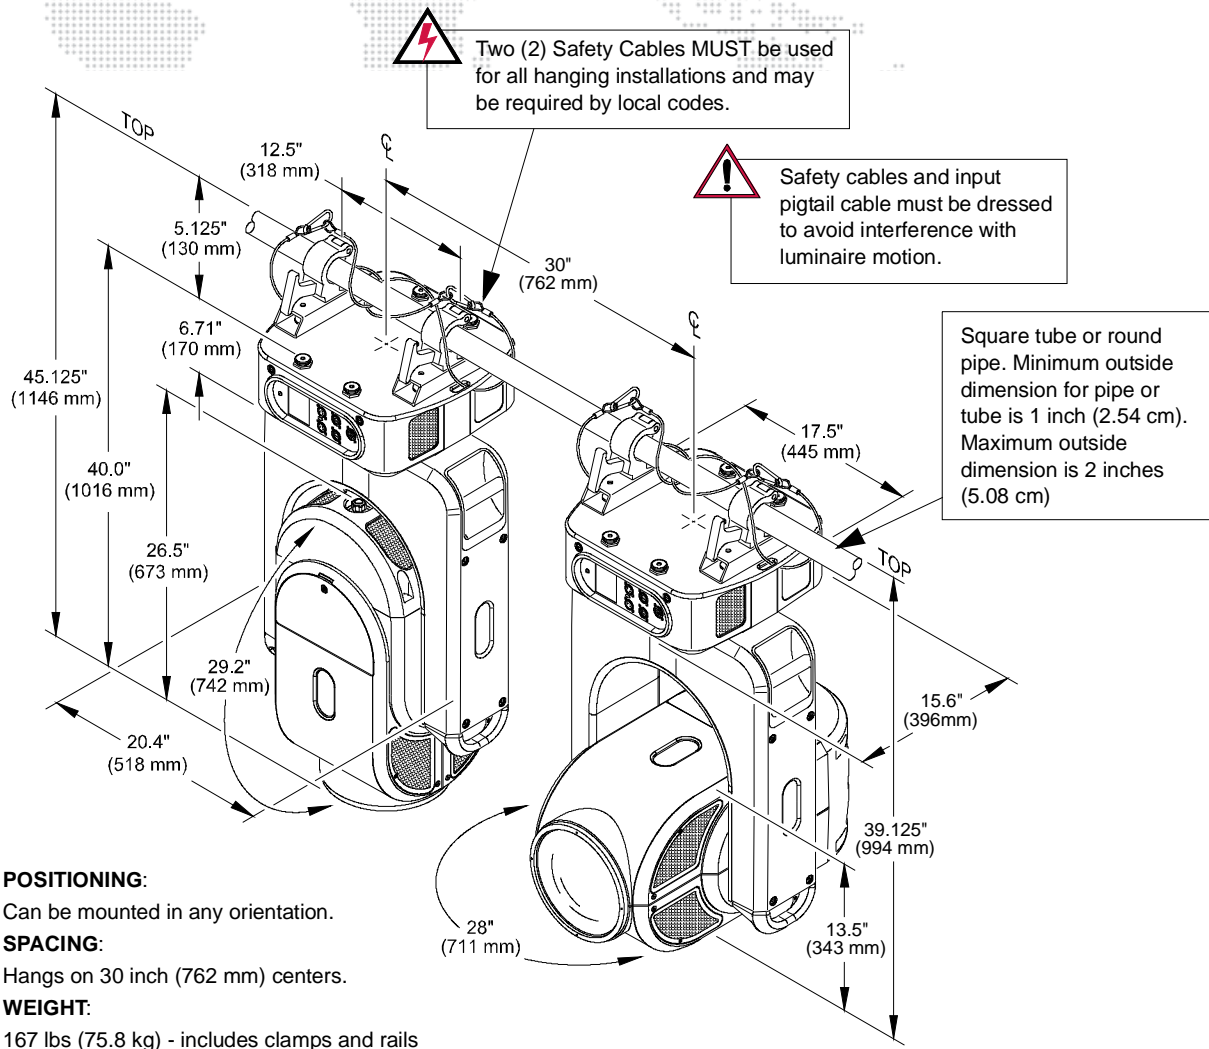

Figure 2-5: Standard Hanging Configuration and Dimensions
- Step 4. Secure in place by tightening Truss Hook wing bolts (**Figure 2-5**). Ensure that luminaire is fully supported.
- Step 5. Feed safety cables through mounting bracket slots and secure around pipe as shown in **Figure 2-5**.
CAUTION: Before applying power, be sure the luminaire is hung or positioned so that the head and yoke can move freely without restriction. Refer clearances in Figure 2-5 on page 15.